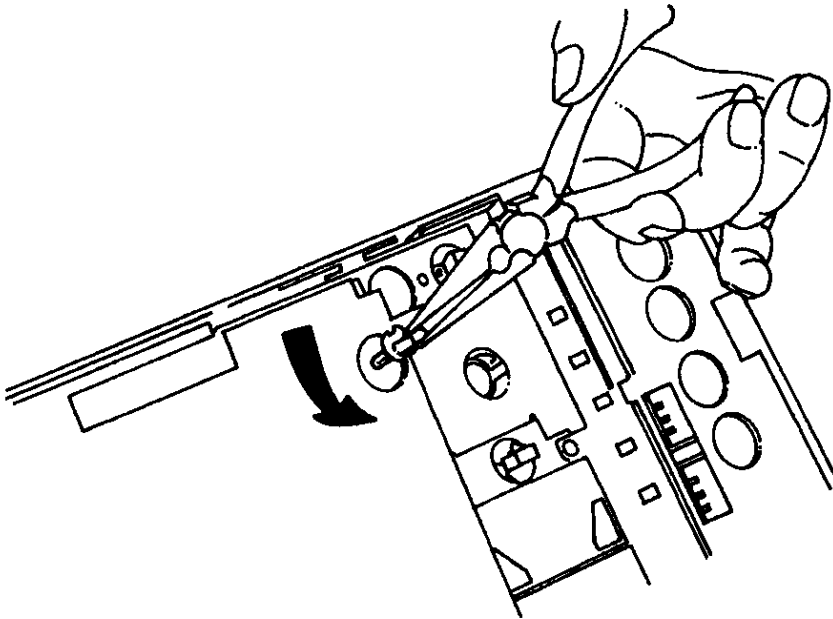

Figure 19 Twist Panel Lamp Bulbs to Remove
6. The panel lamp bulbs are the push-in type and are mounted in a twist lock receptacle. They are serviceable from the rear of the instrument cluster by twisting to remove (Figure 19).
1. Disconnect the sensor connector from the wiring harness connector (Figure 19).